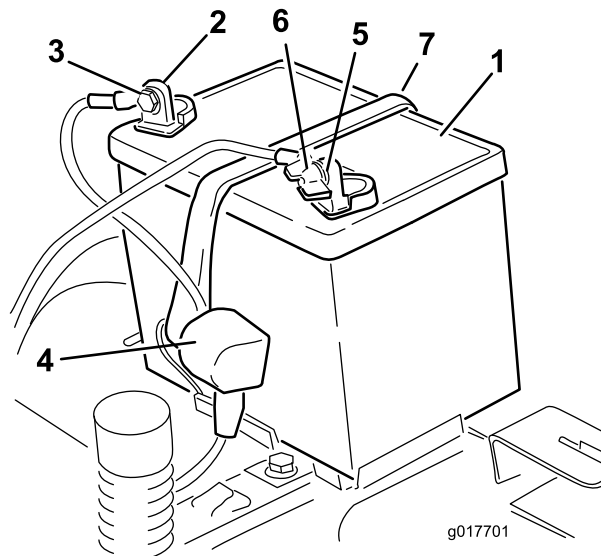

Figure 38
4. Disconnect the negative (black) ground cable from the battery post (Figure 38). Retain all fasteners.
5. Slide the rubber cover up the positive (red) cable. Disconnect the positive (red) cable from the battery post (Figure 38). Retain all fasteners.
6. Remove the battery hold-down (Figure 38) and lift the battery from the battery tray.
1. Position the battery in the tray (Figure 38).
5. Secure the battery with the hold-down (Figure 38).